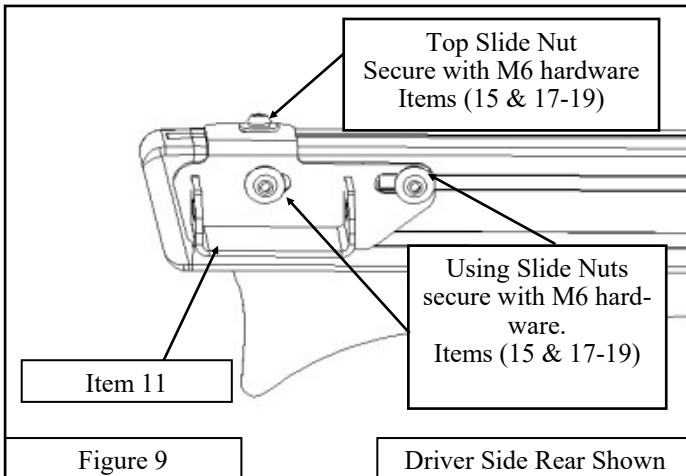

Figure 9
9. Locate Driver Side Rear Cross Rail Bracket (Item 11) and loosely secure it to driver side rail with the two slide nuts in the back and insert one slide nut on the top surface. See **Figure 9** for reference. Use M6 hardware in this step (Items 15 & 17-19).